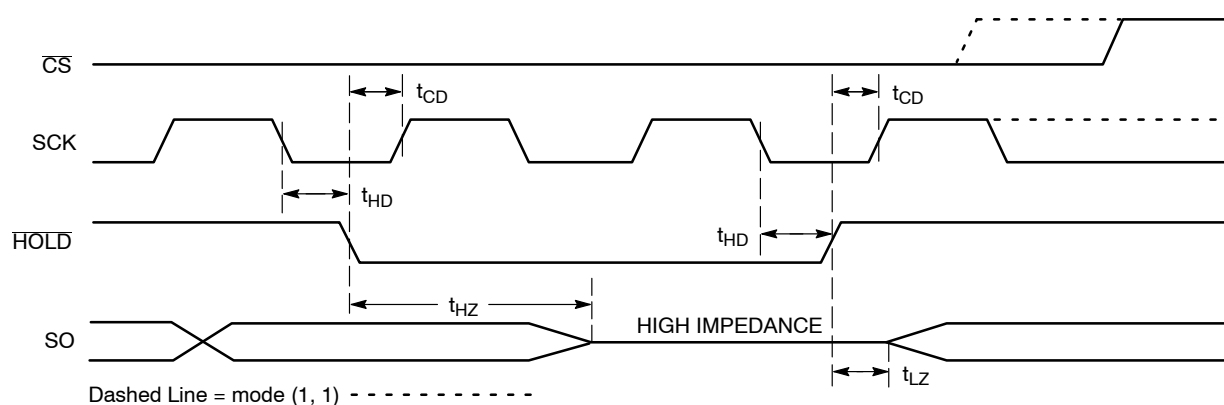

Figure 11.  $\overline{\text{HOLD}}$  Timing
The  $\overline{\text{HOLD}}$  input can be used to pause communication between host and CAV25640. To pause,  $\overline{\text{HOLD}}$  must be taken low while SCK is low (Figure 11). During the hold condition the device must remain selected ( $\overline{\text{CS}}$  low). During the pause, the data output pin (SO) is tri-stated (high impedance) and SI transitions are ignored. To resume communication,  $\overline{\text{HOLD}}$  must be taken high while SCK is low.